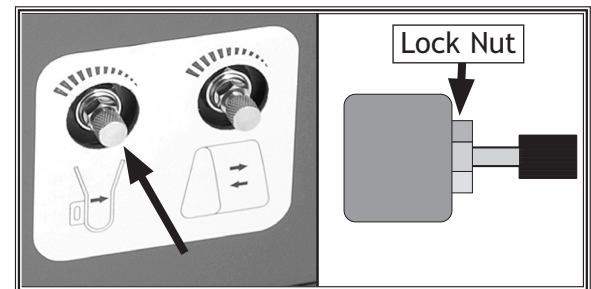

Figure 36. Airflow adjustment knob.
3. Loosen the lock nut on the airflow adjustment knob (**Figure 36**).
4. Turn the airflow adjustment knob (**Figure 36**) clockwise until the airflow is completely **OFF**. The upper roller should pivot to the right.
6. Tighten the lock nut (**Figure 36**) to secure the airflow adjustment knob.